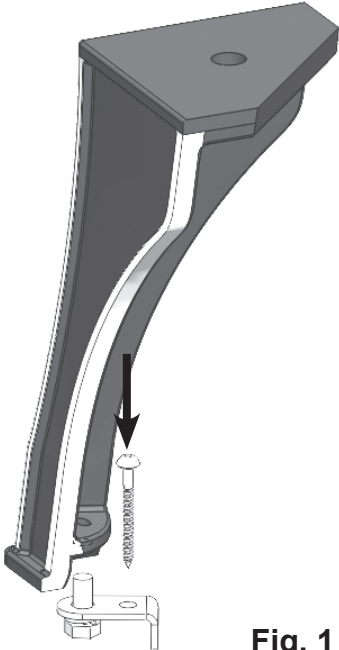

Fig. 1
- For SC Leg Kit (S.Z2613), use the S.ZR8039 Leg Anchor Kit to secure stove to the floor. **(Fig. 1)**